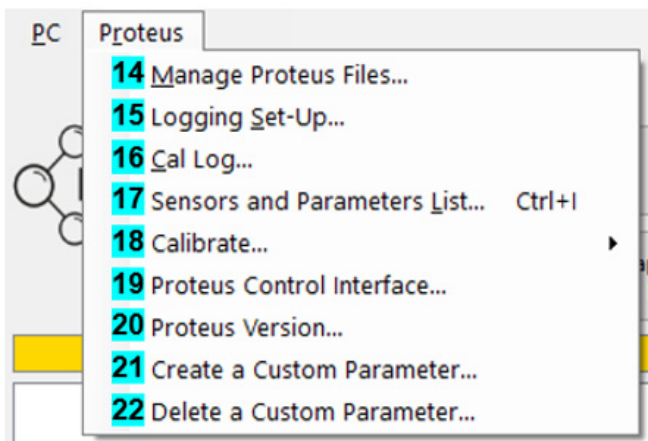

Figure 12: Overview of Proteus Menu on Proteus Manager.
2. On the Proteus Manager, open the Proteus Menu (Figure 12) and select 'Proteus Control Interface'.